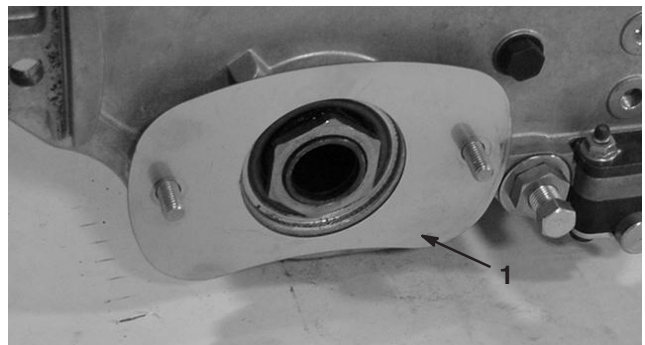

Figure 5
1. Capscrew (2)
8. Insert the shim onto the capscrews positioning as shown in figure 5.